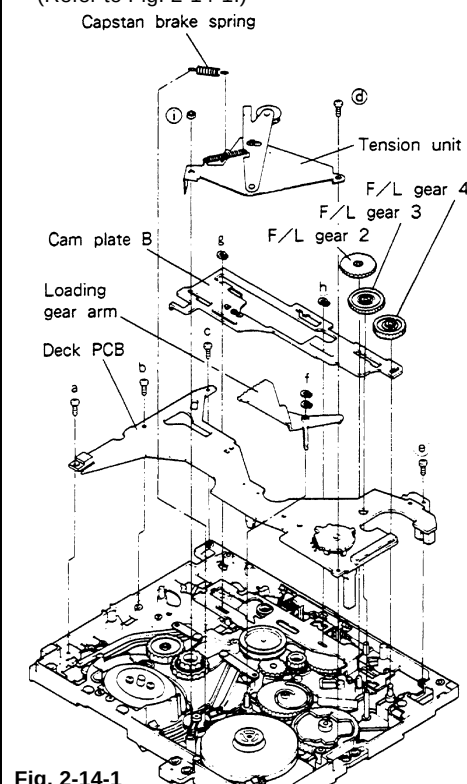
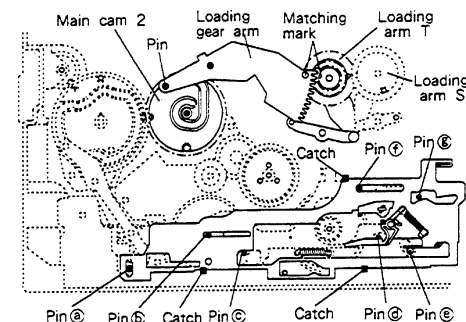

Fig. 2-14-1
Fig. 2-14-2
2-14-1 Removal (Refer to Fig. 2-14-1, 2-14-2.)
- D. Detach two grip rings (f) as shown in Fig. 2-14-1 and remove the loading gear arm.
- F. Unfasten the catches and remove the F/L gear 2, 3 and 4. (Refer to Fig. 2-14-2.)
- G. Remove grip ring (g) and cut washer (h), and unfasten three catches shown in Fig. 2-14-2 to remove the cam plate B. (Refer to Fig. 2-14-1.)
- H. Unscrew four fastening screws (a) to (c) and (e) and remove the deck PCB. (Refer to Fig. 2-14-1.)
2-14-2 Installation (Refer to Fig. 2-14-1~2-14-2.)
- A. Make certain that the mode switch is set to the eject position. (Refer to section 2-9.) Fasten the deck PCB with four screws and solder the FE head terminals. (Refer to Fig. 2-14-1.)
- B. Install the cam plate B by paying attention to the pin (a) to (g) positions shown in Fig. 2-14-2, and secure the plate with three catches, grip ring (g) and cut washer (h).
- C. Line the matching mark on the loading arm T and that on the loading gear arm as shown in Fig. 2-14-2, and assemble the loading gear arm so that the pin of the loading gear arm enters the groove of the main cam 2. Secure the loading gear arm with two grip rings (f).
- G. Fasten the capstan brake spring to the tension unit and the capstan brake unit. (Refer to Fig. 2-14-1.)
- I. Make certain that the mode switch is in the eject position. Fasten the deck PCB assembly with five screws and solder the FE head terminals. (Refer to Fig. 2-14-2 and 2-14-1.)
- B. If the takeup tape guide is replaced, install the loading arm T at first. (Refer to Fig. 2-14-2.)